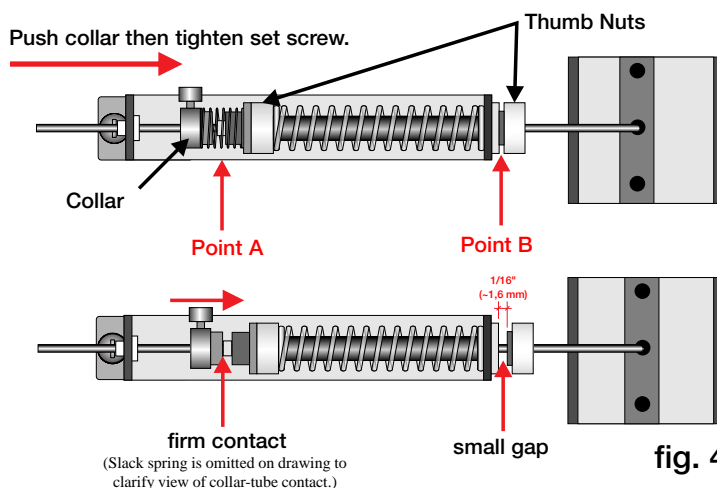

fig. 4
- 4) Now lay the guitar face down on your lap with the neck going off to your left, being sure you do not touch the tremolo or tremolo arm. The tremolo must be able to swing free. Equally loosen the two-spring adjustment screws $\frac{1}{2}$ to 1 full turn. With the brass collar's set screw loose, push the brass collar to your right against the end of the threaded tube (see fig. 4) so that a small gap of about $\frac{1}{16}$ " (1,6 mm) appear at point B. Now tighten the setscrew and let go of the brass collar. What should happen is this; when you push the brass collar to your right to open a gap of $\frac{1}{16}$ " (1,6 mm) at point B, you compressed both the slack spring and the buck spring (see fig.). Now, you tighten the brass collar set screw which "locks" it to the pull rod. When you let go of the brass collar, the buck spring expands, forcing the gap at point B to close. Also, it pulls the sustain block back to its original position. (Remember you loosened the two spring screws $\frac{1}{2}$ to $\frac{3}{4}$ of a turn (step 3). When you did this, the sustain block moved to the right by about $\frac{1}{16}$ " (1,6 mm). Now the Tremsetter pulls the sustain block back to the left to its original position.
Check that the collar is in firm contact with the end of the tube at point A (Fig.4), and that the thumbnut is in firm contact with the face of the busing at point B. When the tremolo is in "neutral pitch" position, there must be contact at these two points.
To increase tremolo stability, tighten the Tremsetter thumbnuts towards each other (Fig. 4). This will compress the buck spring, which effectively counters the additional forces introduced during string bending, vibratos, fine tunings, muting, etc. You will notice that your tremolo arm pressure increases as you tighten the buck spring. Fine tune the precise feel of your arm; find the setting that feels comfortable at the tremolo arm and also gives you adequate bridge stability.